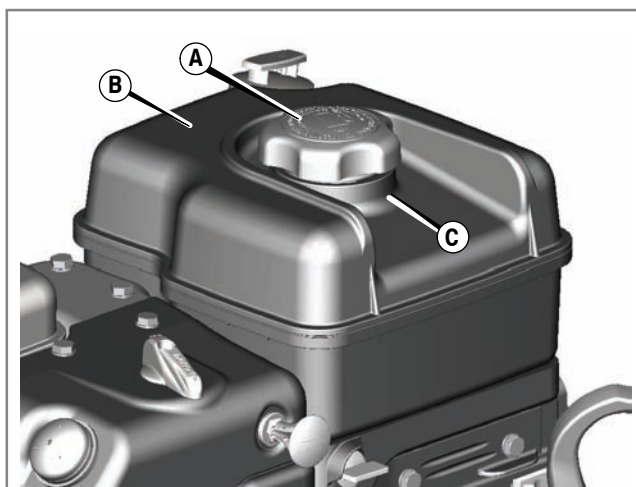

Figure 3
1. Clean the fuel cap area of dirt and debris. Remove the fuel cap (A) (Figure 3).
2. Fill the fuel tank (B) with gasoline. To allow for expansion of the gasoline, do not fill above the bottom of the fuel tank neck (C).